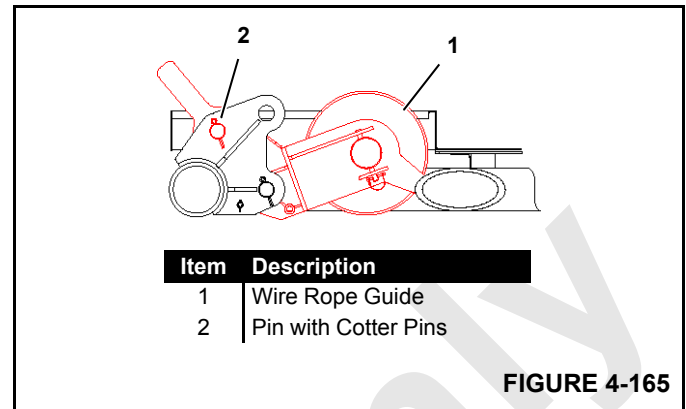

FIGURE 4-165
3. When done, store the rigging line on Drum 6 and store wire rope guide (1) as shown in Figure 4-165.